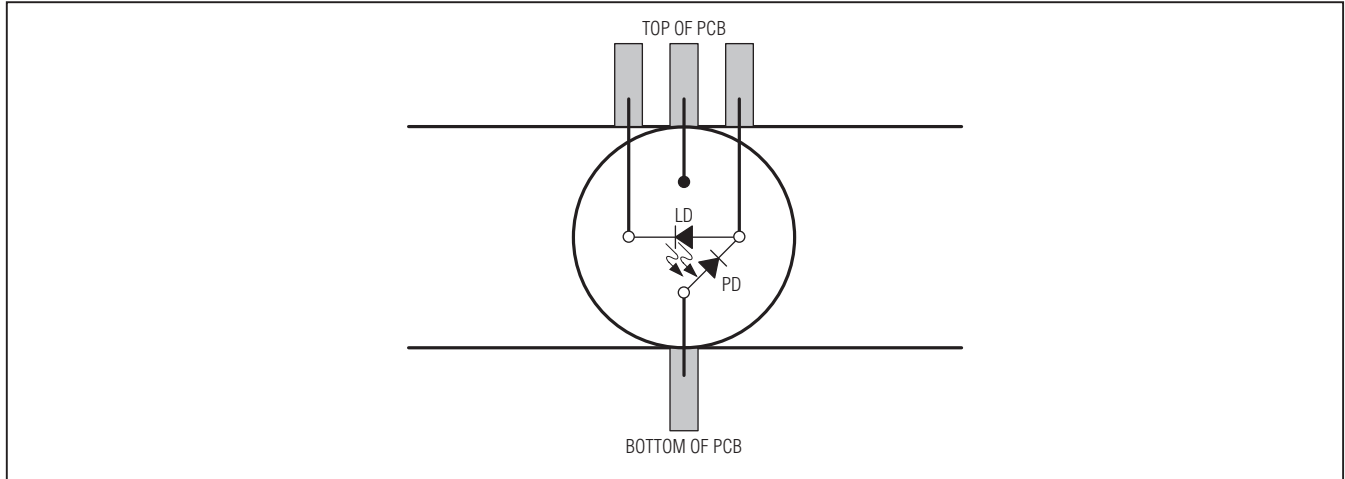

Figure 1. Laser Attachment
- 7) Solder a laser to edge connection D5. See Figure 1 for a view of how the laser should be mounted on the EV kit. Be sure to keep the laser leads as short as possible to minimize parasitic inductance.
**Note:** The APC loop is functional when the  $\overline{\text{FAIL}}$  indicator, green LED D2, is on. The LED is off if the BIASMAX is set too low, the monitor diode (MD) pin is not connected, or the modulation current is set too high.